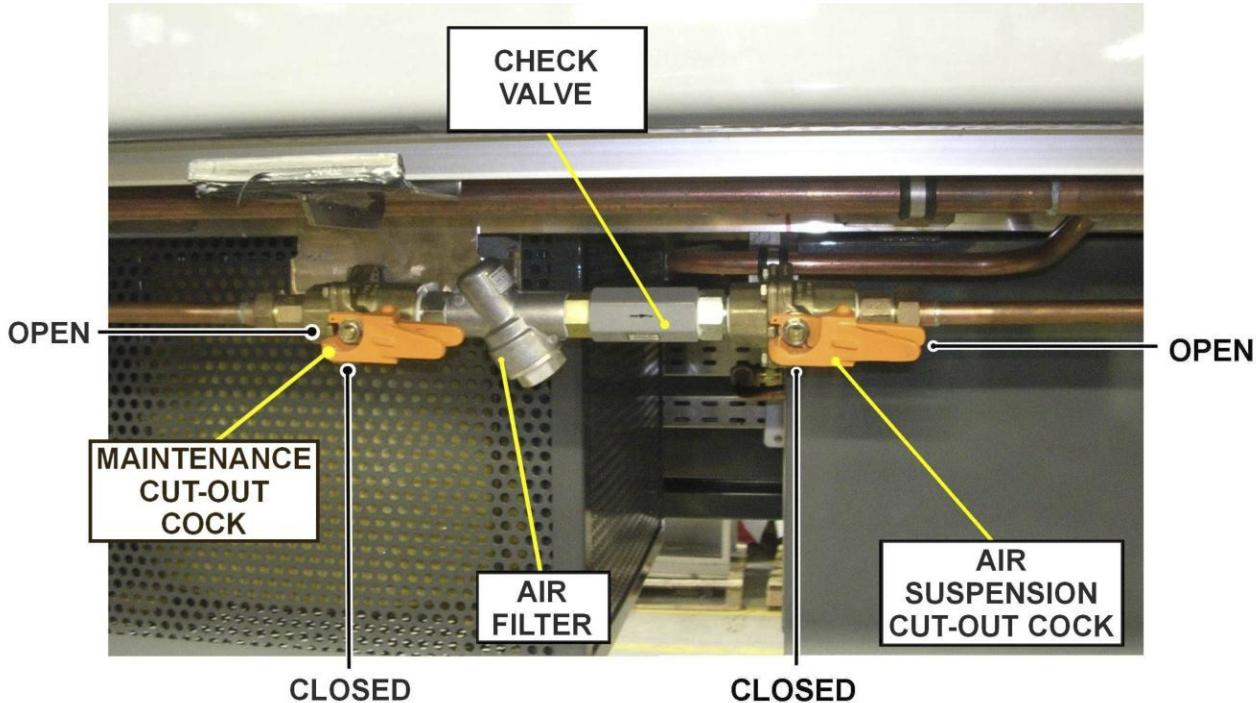

Figure 1 - SUSPENSION MAINTENANCE CUTOUT COCK
9. Vent pneumatic pressure from Air Piping by closing the Air Suspension Cut Out Cock (Refer to Figure 1).
5. Pressurize Air Piping by opening Air Suspension Cut Out Cock (Refer to Figure 1).